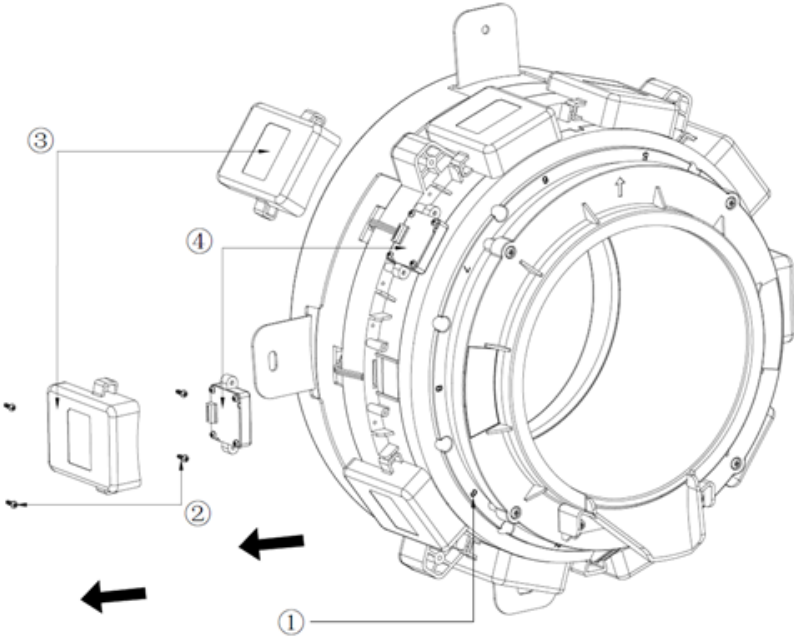

Figure 12-1
As shown in Figure 12-1, remove the 2 screws ② on the Scan Engine Cover ③ (RVM100-SEC), remove the scan engine cover, and remove the scan engine ④ (RVM100-EMOR13). The specification of the